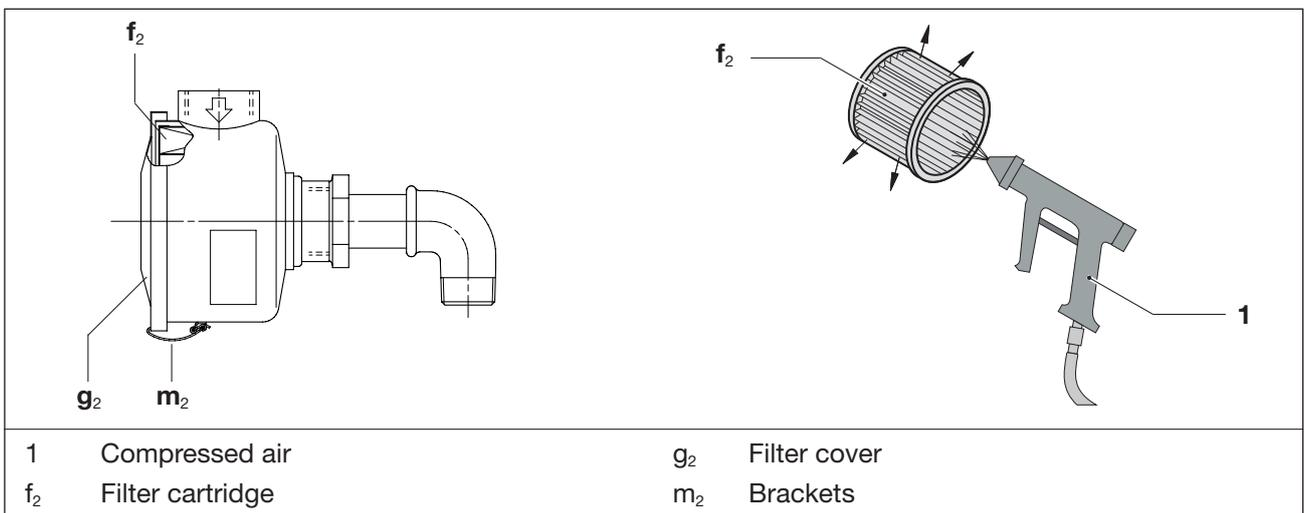

Fig. 7 Intake filter
- a) Release the brackets (Fig. 7/m₂) on the filter cover (Fig. 7/g₂).
- b) Remove the filter cartridge (Fig. 7/f₂) from the filter and clean or replace.
- c) Re-insert the filter cartridge in the filter and fasten the filter cover (Fig. 7/g₂) with the brackets (Fig. 7/m₂).